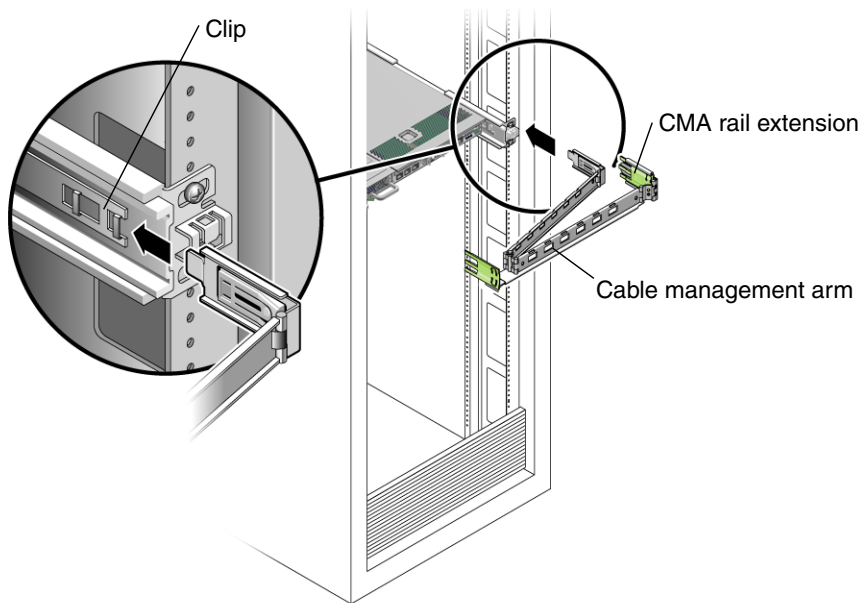

FIGURE 3-45 Installing the Cable Management Arm (CMA)
- a. **Insert the smaller extension into the clip located at the end of the mounting bracket (FIGURE 3-45).**